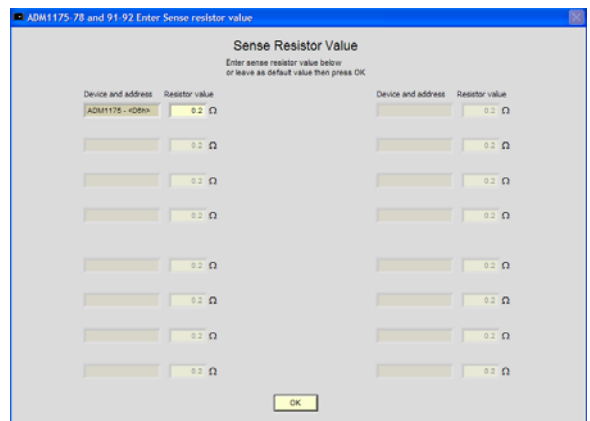

Figure 16. Sense Resistor Value Entry
- Click **OK**. The **Enter Sense resistor value** window appears (see Figure 16).